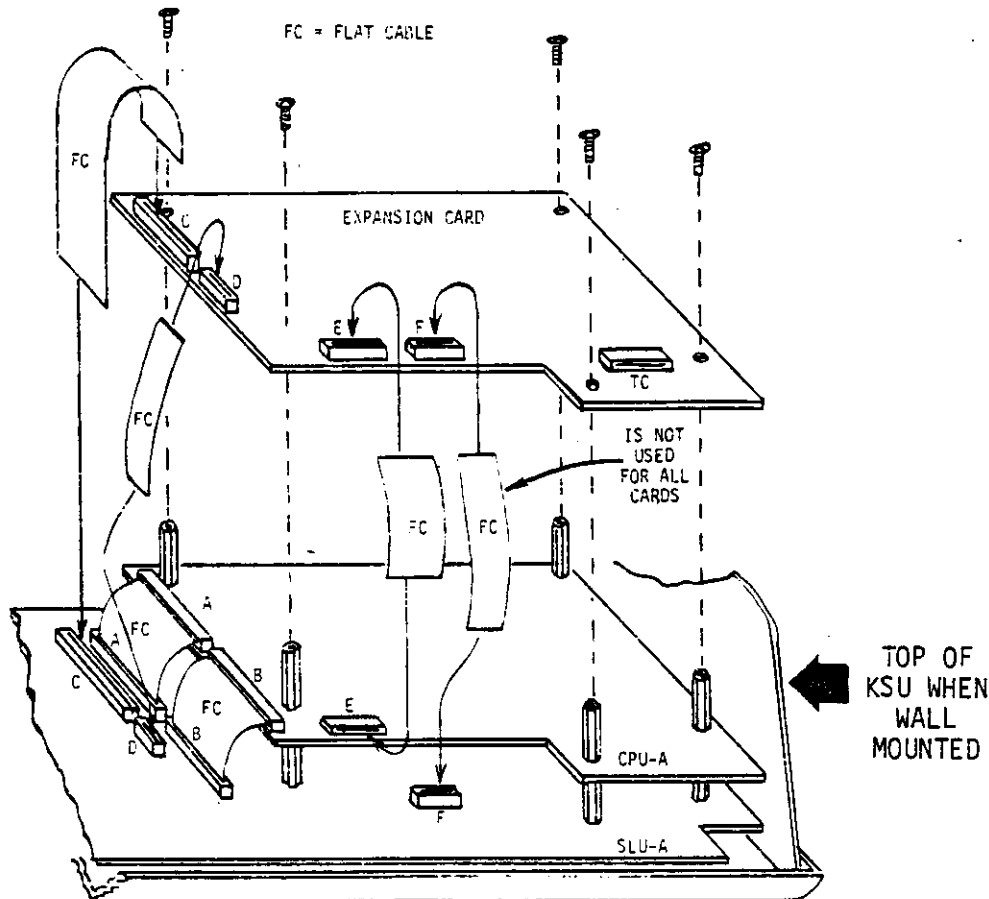

FIGURE 1 - EXPANSION CARD INSTALLATION
4.19 The selected expansion card is installed in the KSU by placing it on top of the stand-offs in the KSU. The card is positioned with the terminals for the station cable to the right side of the card. Fasten the card to the stand-offs with the screws provided. Refer to figure 1.
4.20 With the flat ribbon cables provided, connect the card as shown in figure 1.